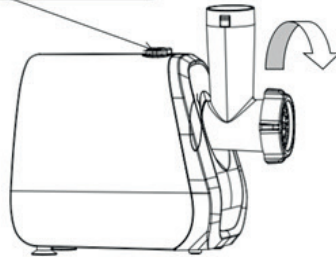

Fig.3
7. When finish blending, unplug to the power source, Disassemble the ream meat tube assembly: press down release button properly with thumb of left hand (see arrow 1 of Fig.3), turn the ream meat tube assembly clockwise with right hand then remove them (see arrow 2 of fig.3).